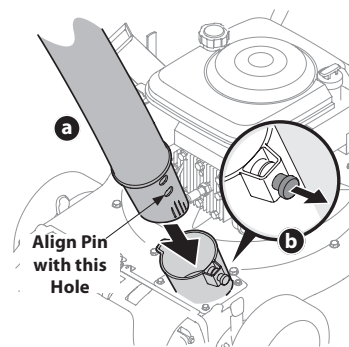

Figure 4
1. Slide hose adapter of hose assembly into the base adapter located on the left front of the chipper shredder vacuum. See a in Figure 4.
2. Pull spring loaded pin out on the base and align pin with the first hole (closest to the end of the tube) in the hose adapter. See b in Figure 4.